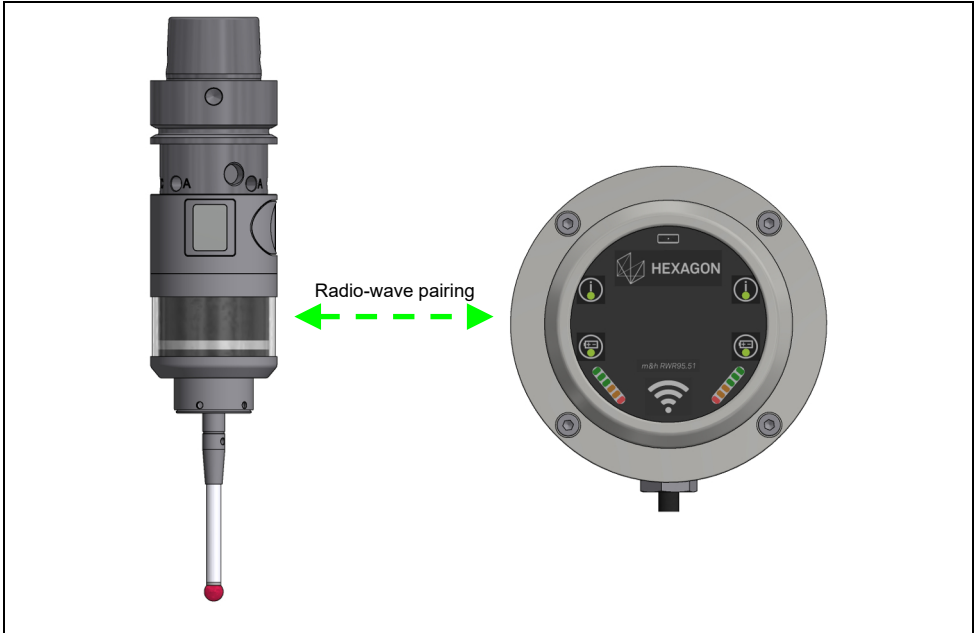

**Fig. 12** Entering the settings
To start the touch probe menu, it must be in "Sleep Mode" (e.g. Immediately after inserting the battery). The menu is operated via only one button on the back of the touch probe (see also Fig. 12). The following operating options are available:
- Press the button (Fig. 12) on the back of the touch probe for approx. 2 s to open the menu. Then immediately press the button twice to confirm.
- The display (Fig. 12) shows brief operating information for the touch probe menu and then opens the main menu.